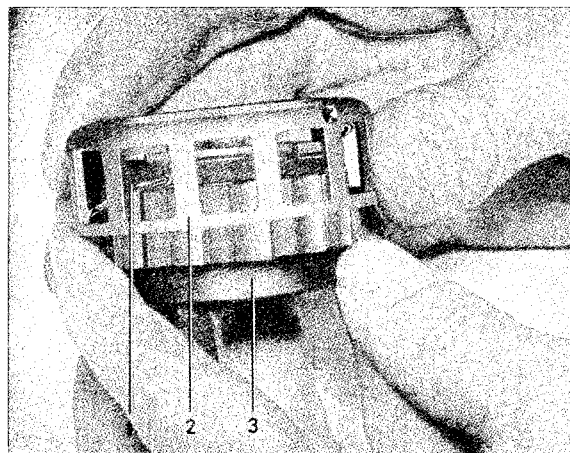
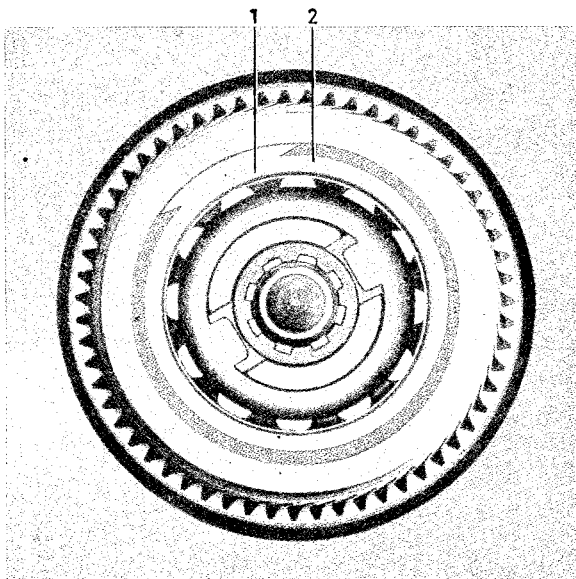

Fig. 4-49. One-way clutch installation
Fig. 4-50. Oil thrower installation
6. Install the thrust washer and then the one-way clutch in position on the output shaft, see Fig. 4-49. Fit the oil thrower and install the snap ring, see Fig. 4-50.